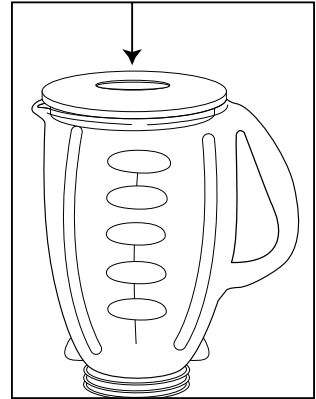

FIGURE 6
- Do not remove the lid while in use. Remove filler cap to add smaller ingredients. (*Figure 6*)